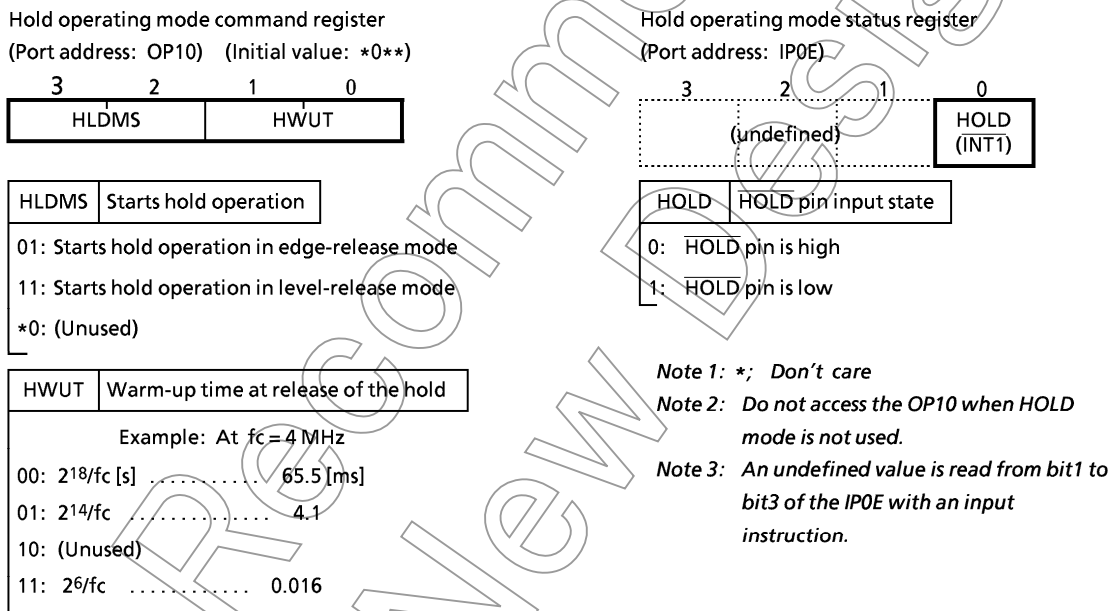

Figure 2-18. Hold Operating Mode Command Register/Status Register
- ① The oscillator starts
- ② Warm-up is performed to acquire the time for stabilizing oscillation. During the warm-up, the internal operations are all stopped. One of three warm-up times can be selected by program depending on the characteristics of the oscillator used.
- ③ When the warm-up time has passed, an ordinary operation restarts from the instruction next to the instruction which starts the hold operation.
- * The warm-up time is obtained by dividing the basic clock by the interval timer, so that, if the frequency at releasing the hold operation is unstable, the warm-up time shown in Figure 2-18 includes an error. Therefore, the warm-up time must be handled as an approximate value. The hold operation is also released by setting the RESET pin to the low level. In this case, the normal reset operation follows immediately.